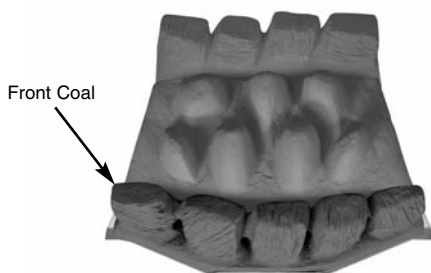

Fig. 84
3. Position the front coal on the front coal retainer, making sure that the back edge is pushed up against the front of the burner strip (Fig. 84).